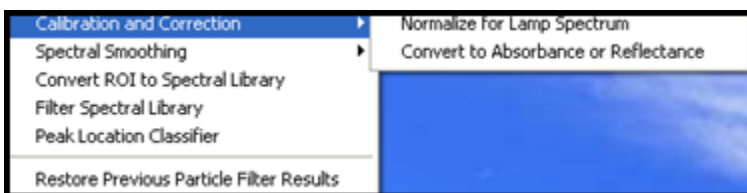
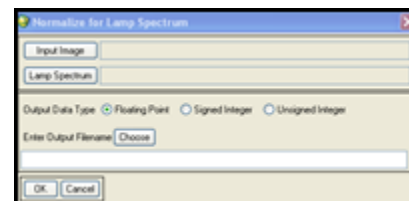

Figure 7.1a. CytoViva Analysis Tab
Figure 7.1b. Lamp Spectrum Button
- Then click the Normalize for Lamp Spectrum (Figure 7.1a) and the Normalize for Lamp Spectrum box will open (Figure 7.1b).